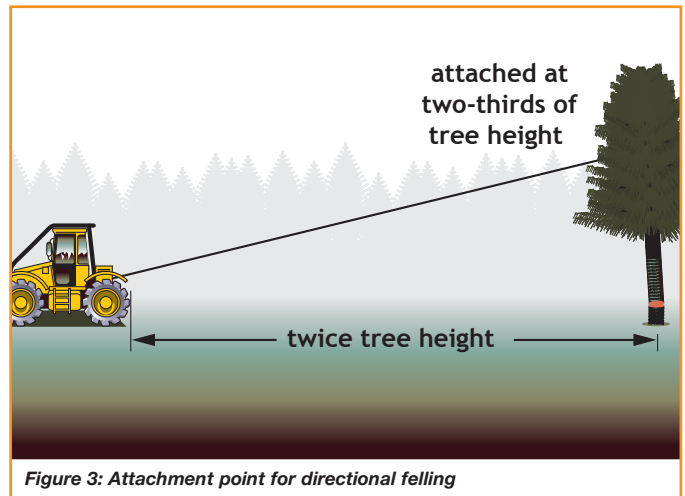

Figure 3: Attachment point for directional felling
- ❑ 24 Before any cutting begins, ensure the winch cable is correctly attached to a suitable strop placed around the trunk at a point high enough to give adequate leverage and retain control of the direction of fall of the tree (see Figure 3). If the condition of the tree allows, it is good practice to test the strain before felling.